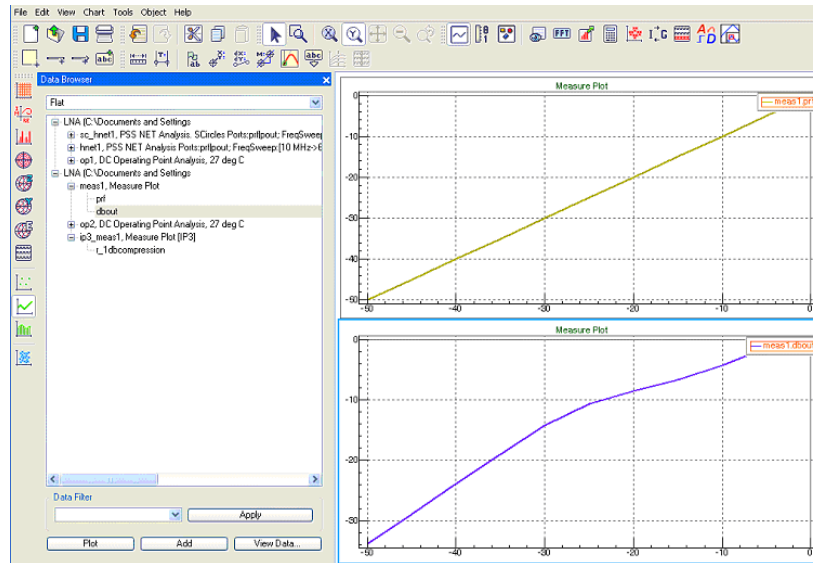

Figure 16: P1dB Simulation Plot
4.2.1: To display the P1dB simulation results, from SMARTVIEW Data Browser window open `meas1` plot, choose both vectors `dbout` and `prf` for and press **Plot** (Figure 16).